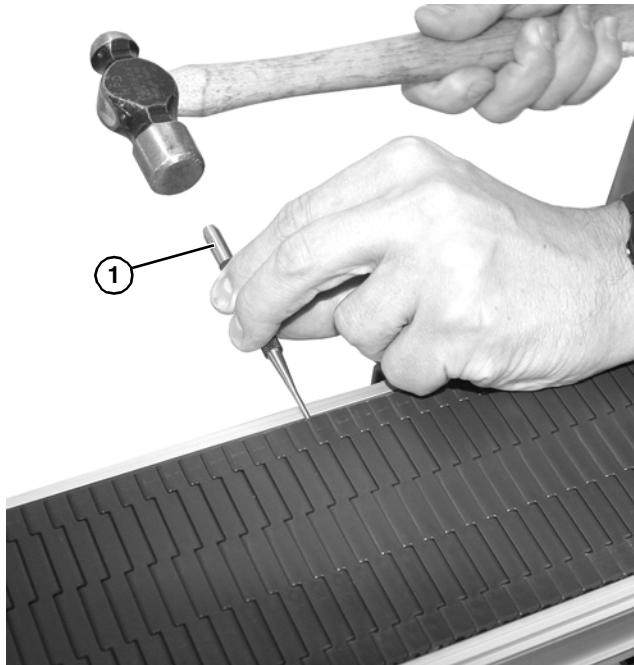

Figure 24
2. Insert punch (Figure 24, item 1) into non-retaining side of belt, pushing rod out.